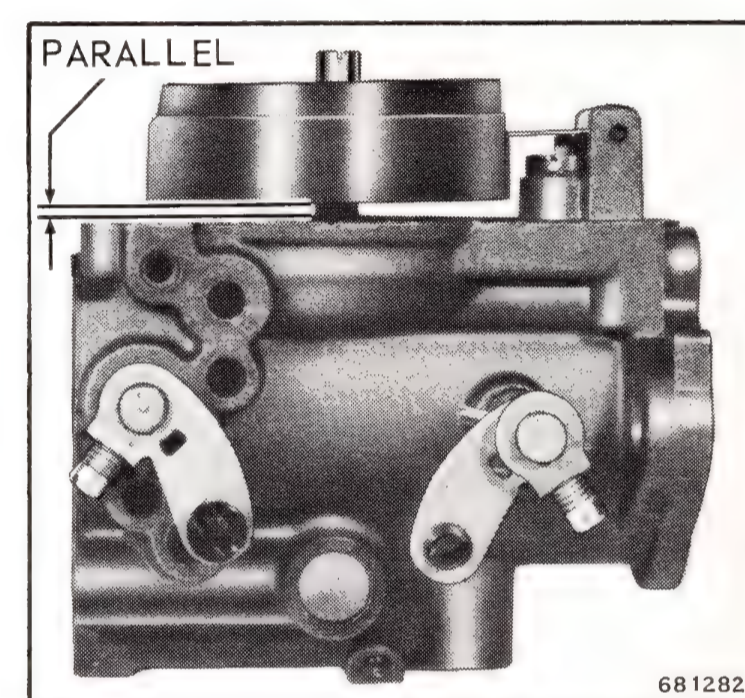

Figure 3-18. Float Level
b. Check for correct positioning of float. Turn carburetor body upside down so weight of float closes needle. Top of float should be parallel with rim of casting. See Figure 3-18.